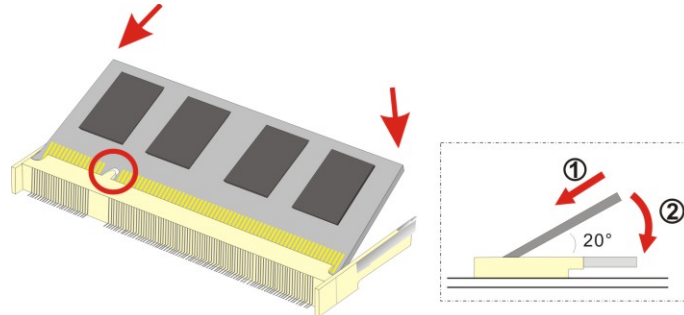

Figure 4-1: SO-DIMM Installation
To install a SO-DIMM, please follow the steps below and refer to **Figure 4-1**.
- Step 3:** Insert the **SO-DIMM**. Push the memory in at a 20° angle. (See **Figure 4-1**)
- Step 4:** Seat the **SO-DIMM**. Gently push downwards and the arms clip into place. (See **Figure 4-1**).